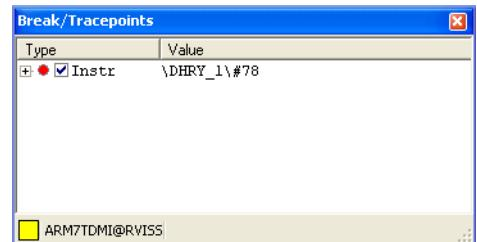

Figure 11-15 Breakpoint in the Break/Tracepoints view
1. Select **Break/Tracepoints** from the **View** menu to display the Break/Tracepoints view, if it is not already visible. Figure 11-15 shows an example: